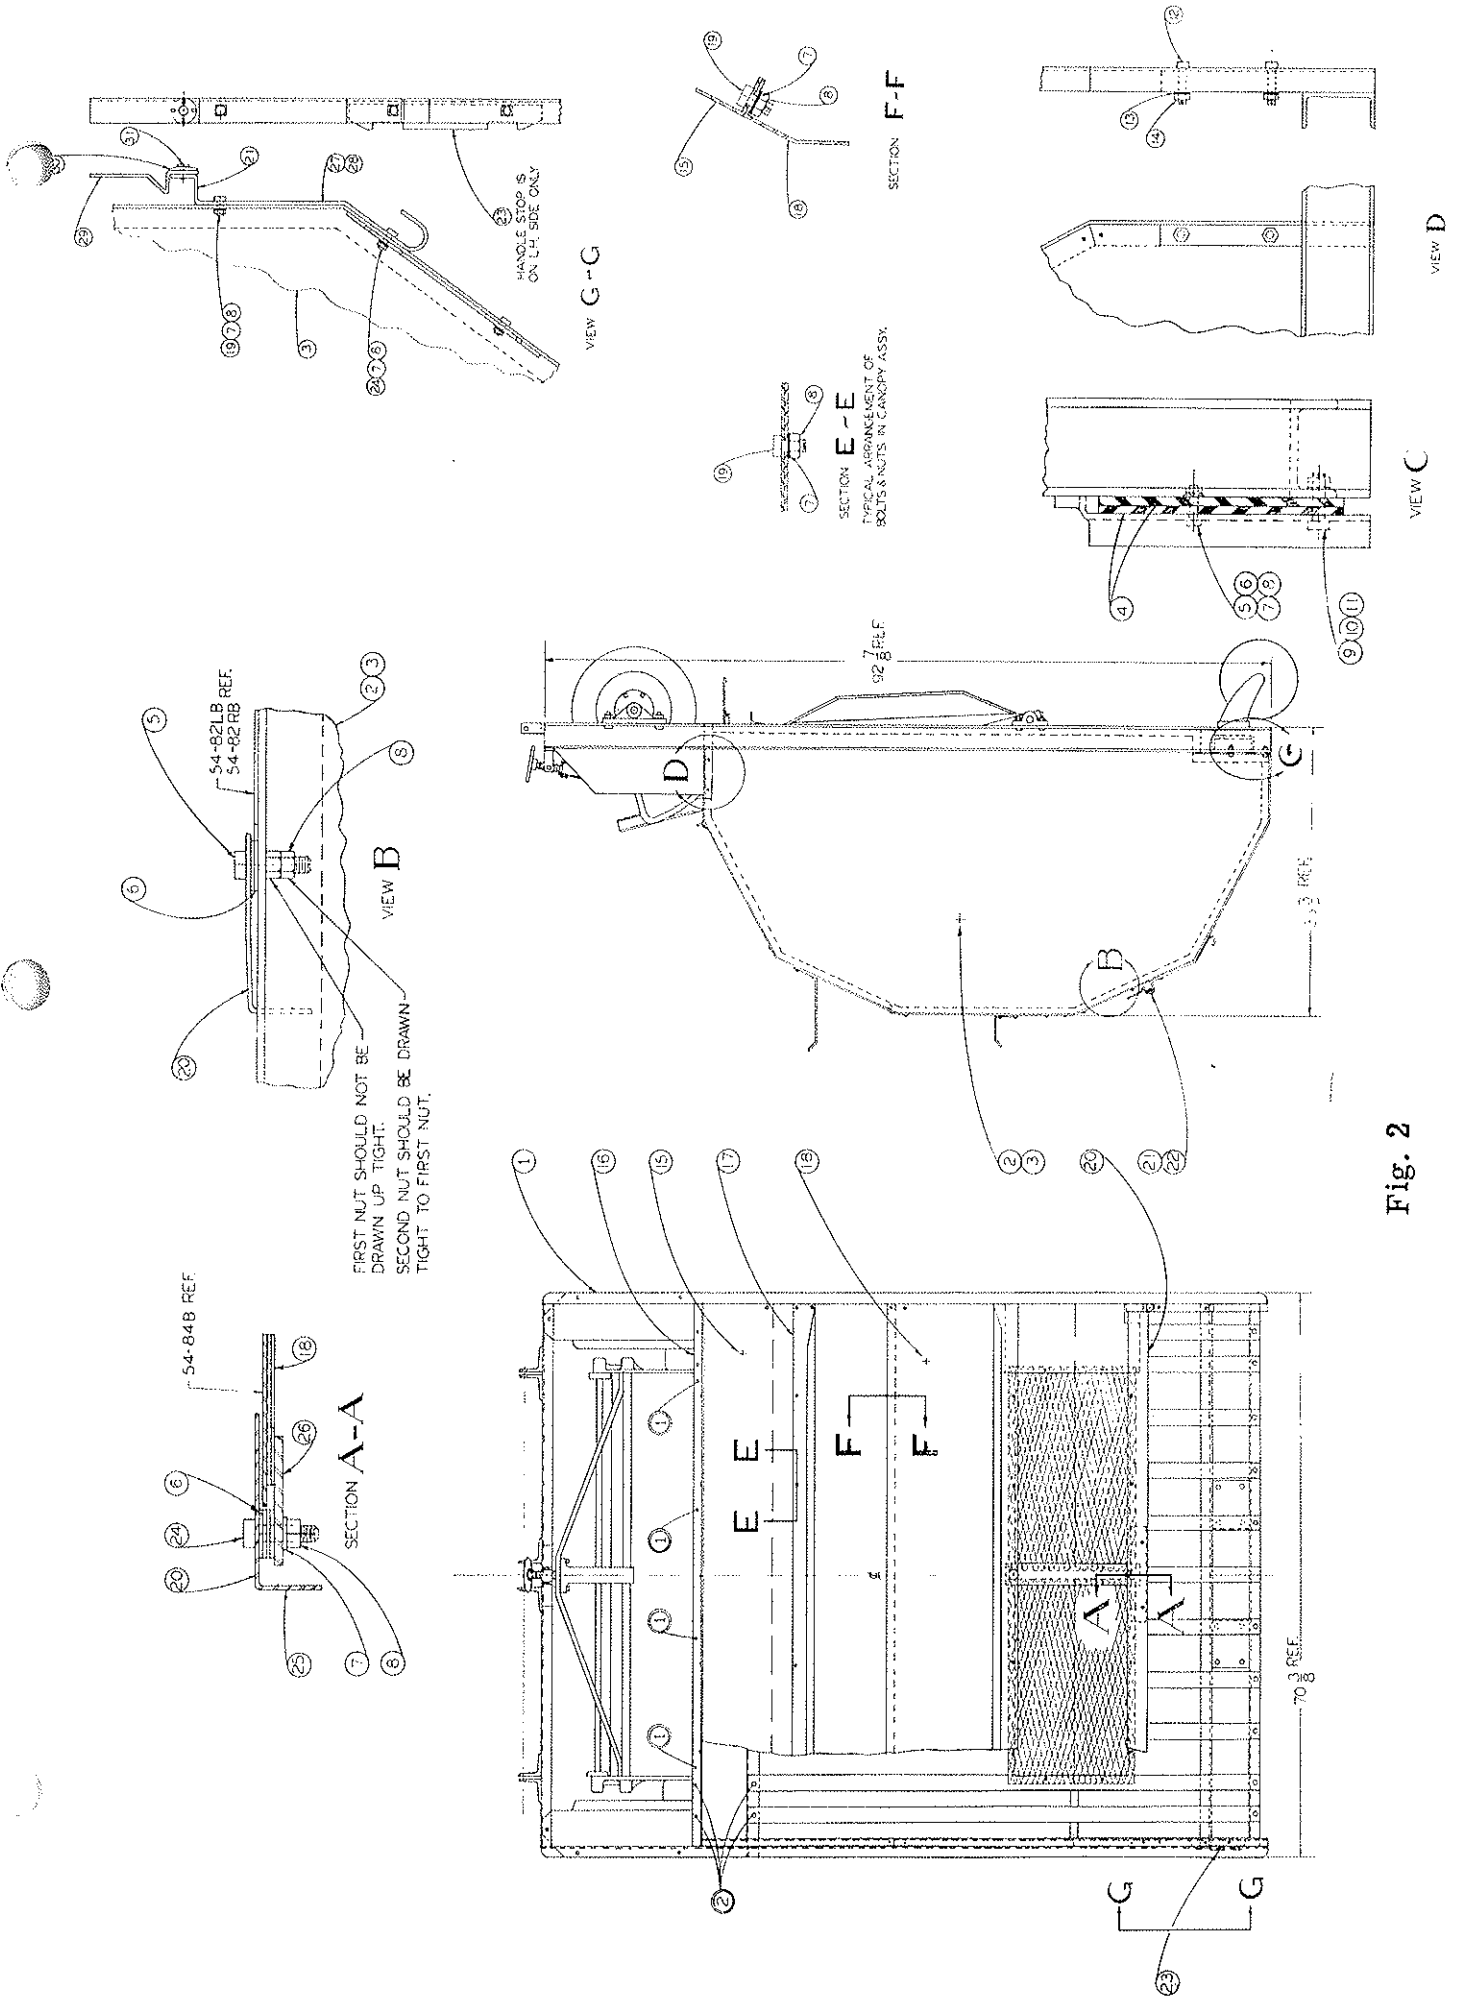

Fig. 2
2. Assemble the Side Panels (Ref. No. 2 of Figure 2) as follows. Remove the two Hex Head Bolts which are located at the lower front end of panels as shown in View "D" of Figure 2, Ref. No. 12, 13 and 14. Next remove the one  $\frac{3}{8}$ -inch Hex Nut from the Bolt which is located at the rear of the Panels as shown in View "C" of Figure 2, Ref. Nos. 9, 10 and 11.
Place the Panels in place and fasten to the Main Frame as shown in Views "C" and "D," Fig. 2. Tighten these bolts securely at this time.
2. Right Side Panel (Ref. No. 2, Fig. 2).
Left Side Panel (Ref. No. 3, Fig. 2).
3. Panel Lower Front (Ref. No. 15, Fig. 2).
4. Panel Upper Front (Ref. No. 18, Fig. 2).
5. Panel Rear Screen Support Assy. (Ref. No. 20, Fig. 2).
7. Front Canvas Rack (Ref. No. 17, Fig. 2).
4. Assemble the Lower Front Panel (Ref. No. 15, Fig. 2) as follows. Remove the  $\frac{1}{4} \times \frac{1}{2}$  bolts from the bag. Place Front Panel in place and insert a  $\frac{1}{4}$ -inch bolt at each end of the Angle Support (Ref. No. 16, Fig. 2) and fasten to the Side Panels with lockwashers and nuts provided in bag. Do not tighten these bolts at this time.
5. Place the Front Canvas Rack (Ref. No. 17, Fig. 2) over the holes provided in the Lower Front Canopy and fasten as shown in detail E-E, Fig. 2. Do not tighten bolts at this time.
6. Place the Upper Front Assembly (Ref. No. 18, Fig. 2) into position as shown and fasten the Lower Front Panel as shown in detail F-F, Fig. 2.
7. Assemble the Rear Support Assembly (Ref. No. 20, Fig. 2) to the Upper Front Assembly (Ref. No. 18, Fig. 2) as shown in detail A-A, Fig. 2. Fasten the Rear Support Assembly to the Side Panels (Ref. No. 2, Fig. 2) as shown in View B, Fig. 2. Use the bolts, washers and nuts provided at each end of the Rear Support Assembly.
8. Fasten the Sweeper Brush Hood (Ref. No. 2, Fig. 1) to the Lower Front Panel Angle Support (Ref. No. 16, Fig. 2) with  $\frac{1}{4} \times \frac{1}{2}$  bolts at four places as shown (double circled Ref. No. 1, Fig. 2).
9. Unroll the rubber fender shields and assemble to Angle Support (Ref. No. 16, Fig. 2) use hardware provided at end of shield and fasten at two places as shown (double circled Ref. No. 2, Fig. 2). Do this on both sides of the machine.
To install the Baling Canvas (Ref. No. 11, Fig. 1) pull the Baling Handle (Ref. No. 20, Fig. 5) up and back until it slides into the rear catch (Ref. No. 23, Fig. 2, View G-G). This raises the Baling Canvas Carrier into position to receive the front rod of the Baling Canvas. Notice that the front rod has two holes 40 inches apart which allows the rod to fit onto the projecting pins of the carrier. After the Baling Canvas rod is secured by the two pins, release the Handle and return it to the forward position. This takes the forward end of the Baling Canvas forward and down to the floor of the machine. The remaining
rod of the Baling Canvas is rested at each end onto the Side Panels and is held in position by the locking type Bracket (Ref. No. 21, Fig. 2, View G-G).